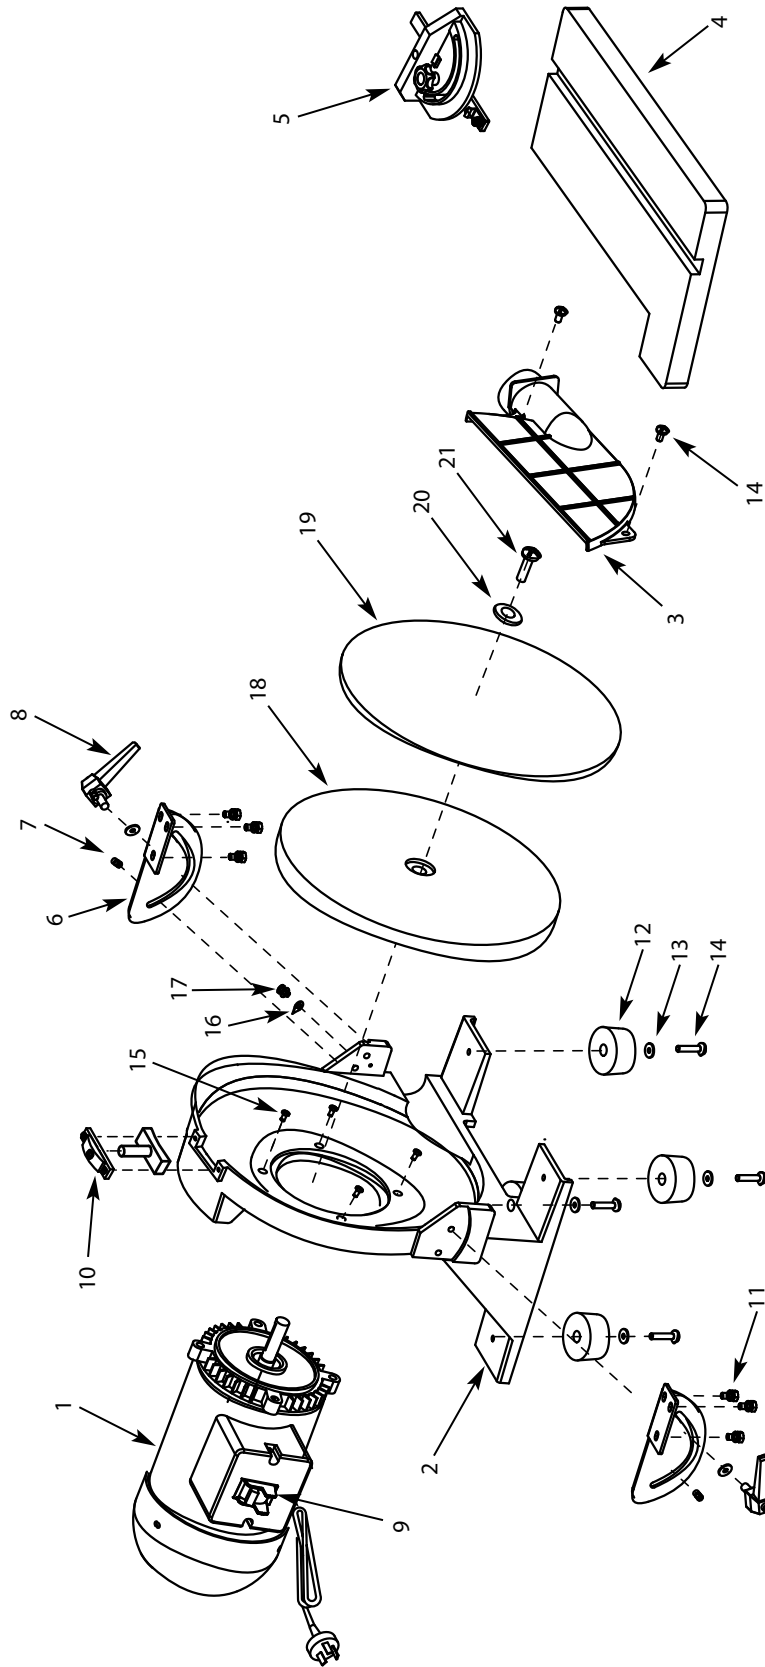

Figure 4 – Repair Parts Illustration for Model 9691312A 12" Disc Sander
- To bolt sander to a workbench or tool stand, the feet, bolts, washers and nuts (Fig. 4, Ref. Nos. 16, 17 and 18) must be removed.
Refer to Figure 4, page 6.
Refer to Figure 4, page 6
Refer to Figure 4.